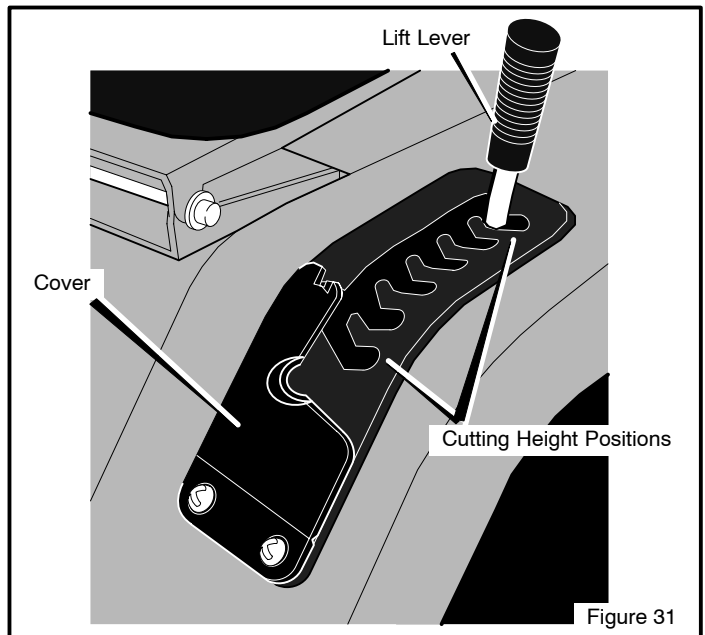

Figure 31
8. Raise the **lift lever** from the LEVEL ADJUSTMENT position to a CUTTING HEIGHT position (Figure 31).